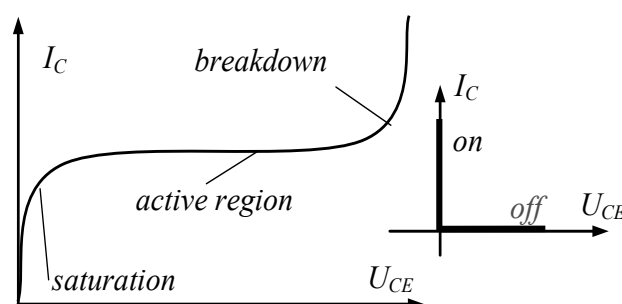

Fig. 1.24
**Output characteristics.** Fig 1.24 shows the output characteristic known here as a *collector curve* that is the collector current  $I_C$  as a function of the collector-emitter voltage  $U_{CE}$ . The collector curve has three distinct operating regions. First, there is the most important region in the middle called an *active region*. When the transistor is used as an amplifier, it operates in the active region. Another region is a *breakdown region*. The transistor should never operate in this region because it is very likely to be destroyed. The rising part of the curve, where  $U_{CE}$  is between 0 and approximately 1 V is called a *saturation region* or *ohmic region*. Here, the resistance of the device is very low and it is fully open. When it is used in digital circuits, the transistor usually operates in this region in a long time.
The idealized output characteristic of BJT operating as a switch is given in Fig. 1.24 as well.